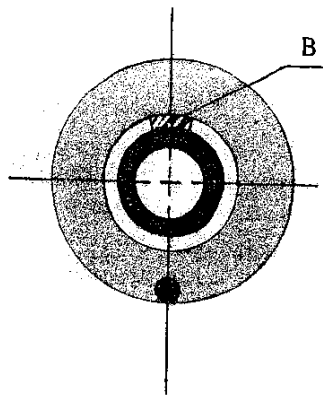

Fig 5
3. Lock the balancing block [B] on the opposite side of center of gravity and do not move any more. (Fig 5).